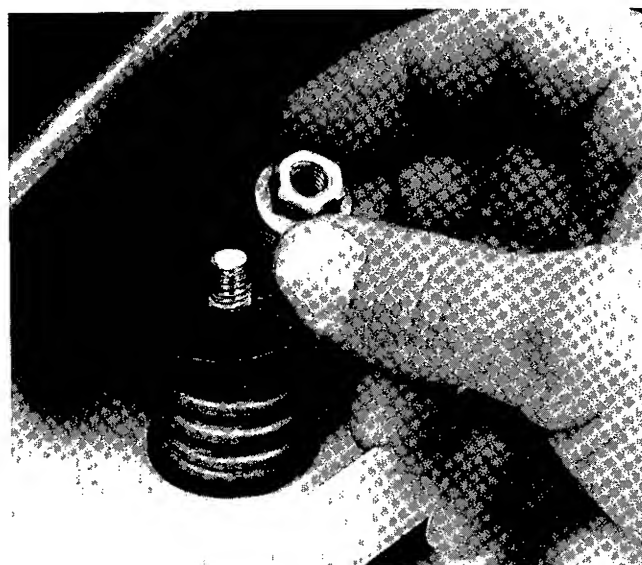

Fig 23 — Removing Nut from Compressor Spring Mount (not all models)
- e Remove compressor mounting nuts. See Fig 23
- f Check compressor mounts. If compressor is mounted on *springs*, remove nuts from mounting studs. See Fig 23. Some mounts also have a washer. Pry off with screwdriver. Failure to remove hardware results in noisy operation. Save hardware for possible future transport of unit. If unit is transported, replace hardware on mounting